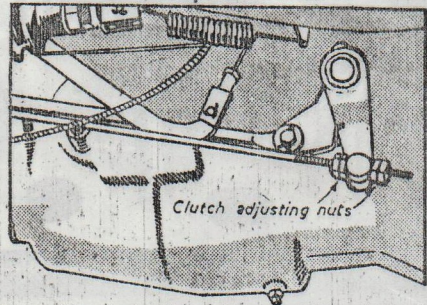
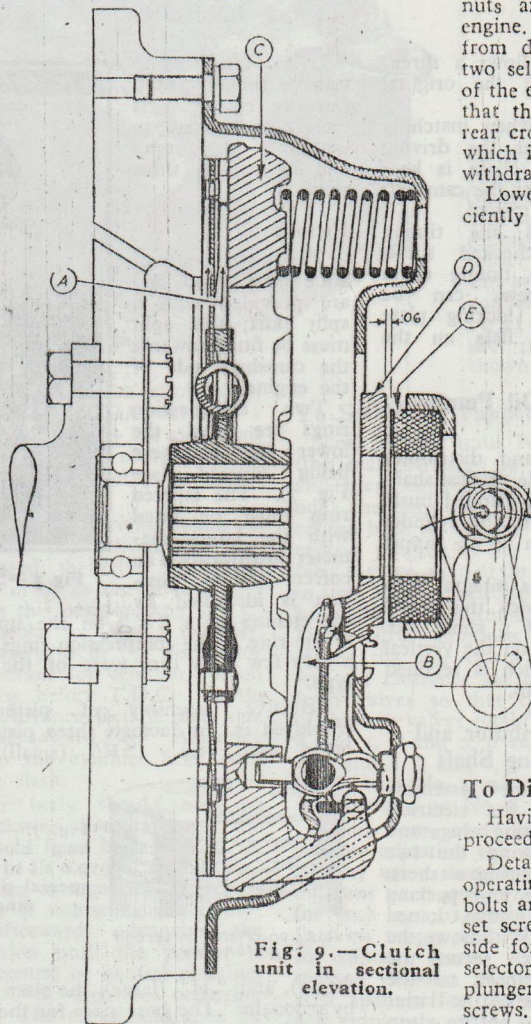

Fig. 10.—Clutch adjustment.
Fig. 9.—Clutch unit in sectional elevation.
The clutch (see Fig. 9) is of the single dry-plate type, consisting of a driving plate assembly splined to the gearbox constant pinion shaft's forward extension; a cover assembly and a release bearing which is operated by a fork mounted on the clutch cross shaft.
As wear occurs to the friction facings (A), the outer ends of the release levers (B) will move with the pressure plate (C) closer to the flywheel, and the inner ends of these levers will move outwards with the release lever plate (D) thus reducing the clearance between (D) and (E). It will be understood, therefore, that as this necessary clearance of 1/16in. (0.0625in.) is reduced by wear it is necessary to restore it by suitable adjustment of the fork which carries the release bearing carrier. This is effected by alteration of the adjusting nuts shown in Fig. 10.
the four nuts shown in Fig. 10, until there is an inch of free movement at the pedal pad, which represents the necessary 1/16in. clearance between (D) and (E) (see Fig. 9).